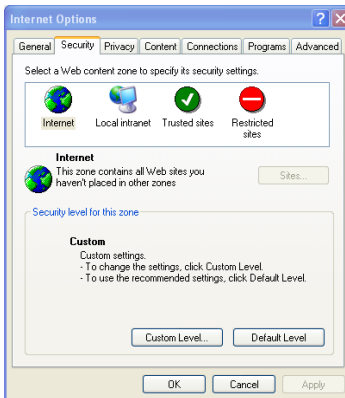

Fig 8-1
① Open IE browser. Click Tools→Internet Options.
② Select Security→Custom Level. Refer to Fig 8-1.